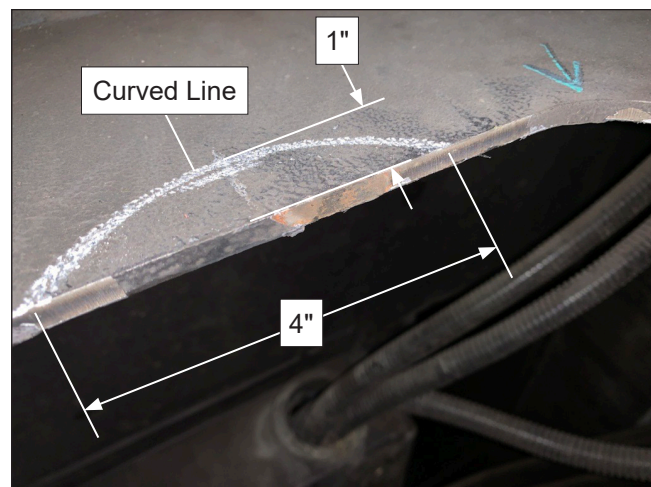

Figure 14 — Marking Outline for Notch
22. Draw a curved "half-moon" line 1" high and 4" wide on the outside of the channel, with the highest point centered about the vertical line drawn in the previous step (refer to Figure 14).